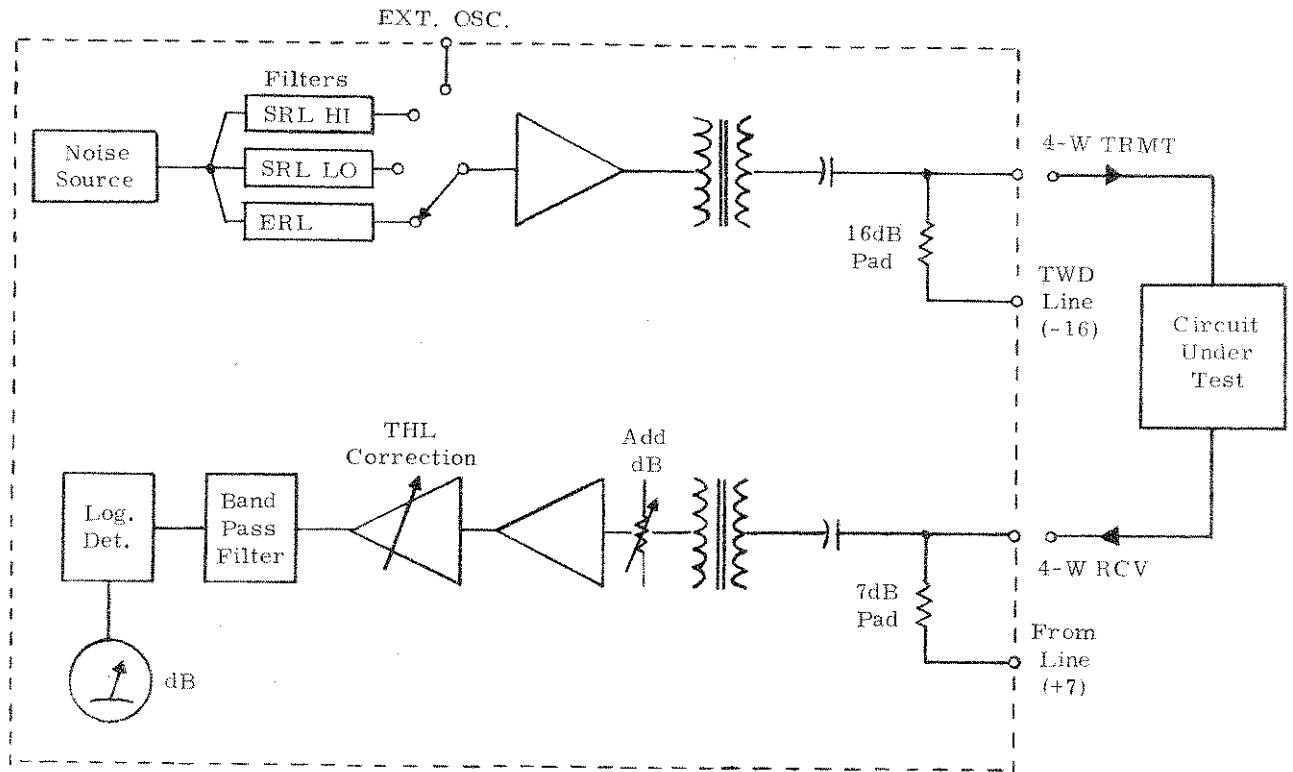

Figure 2-10. 4-Wire Return Loss Measurement, Simplified Diagram
2.13 Figure 2-10 is a simplified diagram showing the Model 9041 being used for 4-wire return loss measurements. The noise signal is applied to the circuit under test through the selected noise weighting filter. Alternatively, an external oscillator signal can be applied to make structural return loss measurements. The receive signal is applied through the ADD dB switch, a trans-hybrid loss correction circuit, a band-pass filter, and a logarithmic detector to indicate the return loss level on a linear dB scale. The 16dB and 7dB pads are included for circuits requiring transmit signals at a -16dB point and receive signals at a +7dB point.